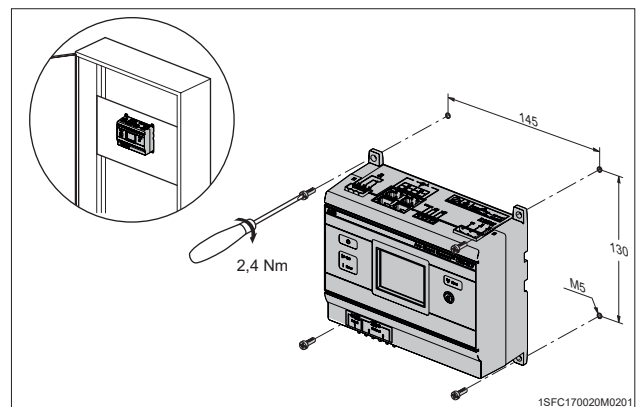

Figure 3
1. Predrill holes in the wall to fit screws 5M. See **Figure 3** for dimensions.